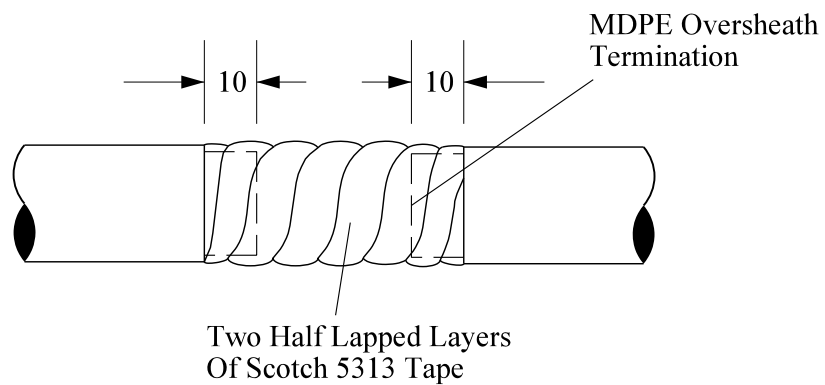

Fig 2.
5. Replace the MDPE oversheath and apply two half lapped layers of ‘3M’ 5313 tape the tension of the 5313 tape shall be such to cause the width of the tape to reduce to $\frac{3}{4}$ of its normal width, the tape shall then overlap onto the oversheath by 25mm – Fig 2.
5. Apply two half lapped layers, under tension of ‘88’ black PVC tape over the previously applied ‘3M’ 5313 tape, overlapping onto the MDPE oversheath. – Fig 2.